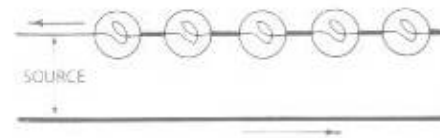

Fig. 6-6 Style of wiring known as "series" wiring. It is impractical except for very special purposes.
**Wiring in parallel** If several lamps are used, do not make the mistake of wiring them *in series* as in Fig. 6-6 because that is impractical for most purposes. If one lamp burns out or is removed from its socket, it is the same as opening a switch in the circuit—all the lamps go out. Instead, wire them *in parallel* as in Fig. 6-7. The white wire goes to each lamp, from the first to the second and to the third and so on; the black wire also runs to each lamp in similar fashion. Each lamp will light even if one or more of the others is removed. The switch shown cuts off the current to all the lamps at the same time. The wiring is simple; white wire from *SOURCE* to each socket or outlet; black wire from *SOURCE* to the switch, and from the switch another black wire to each of the sockets. This is the way a fixture with five sockets is wired.